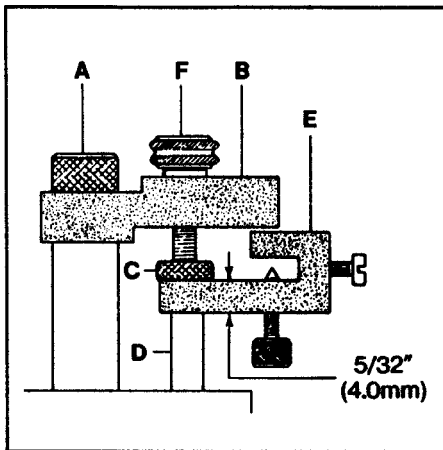

FIG. 8
Turn the handwheel until the needle bar is at its lowest point. Loosen presser bar regulating screw (A, Fig. 8) and insert needle bar setting block (B) under the head of the screw (A) with stop screw (C) above needle bar (D). Tighten screw (A).
The long portion of the looper clamp and height gauge (E, Fig. 8) laid on its side is the  $5/32$ " (4.0mm) gauge used to set the distance between stop screw (C) and the top of the needle bar (D) at its lowest position. Tighten nut (F) to clamp stop screw (C) into place.